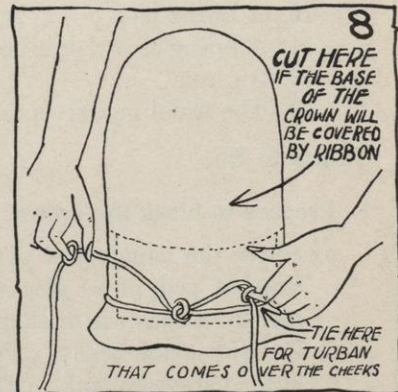

FIG. 8.
- (3) If you plan to make a turban that comes over the cheeks, steam the crown down as far as it is needed (see Figure 8) and then tie it firmly.
- (4) Watch the amount of felt that will be left after cutting off the crown. If there is not enough felt for your brim, or the coronet, or the trimming, or whatever you care to make, steam and try to stretch the felt down again gently in order to get the desired amount below the cord.
- (5) When you are planning to cover the base of the crown with ribbon, if you find that by cutting the felt off at the base of the crown, you will not have enough felt left for the brim, then plan to cut the crown off part of the way up on the side of the crown (see Figure 8) so that you will have more felt left for your brim. Tie a cord just below the base of the crown, but do not put any thumb tacks or staples in the felt. In order to complete such a crown and to get the desired height, it will have to be raised with crinoline or willow.
- (6) **Never put staples or tacks in any part of the hat that will show in the finished hat.**